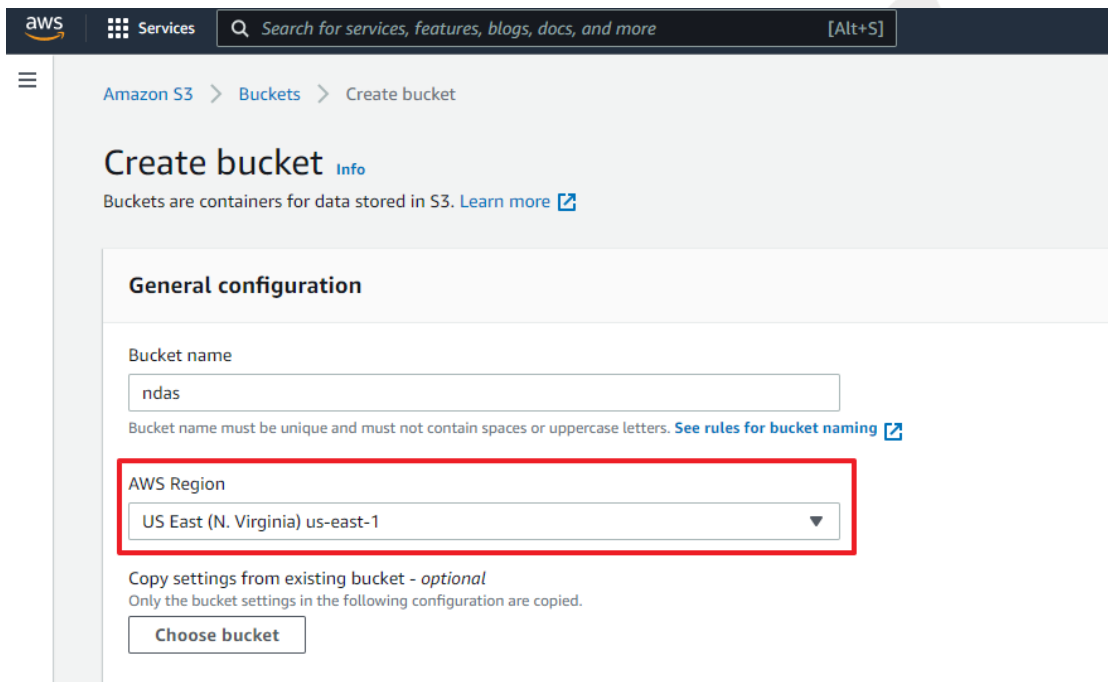
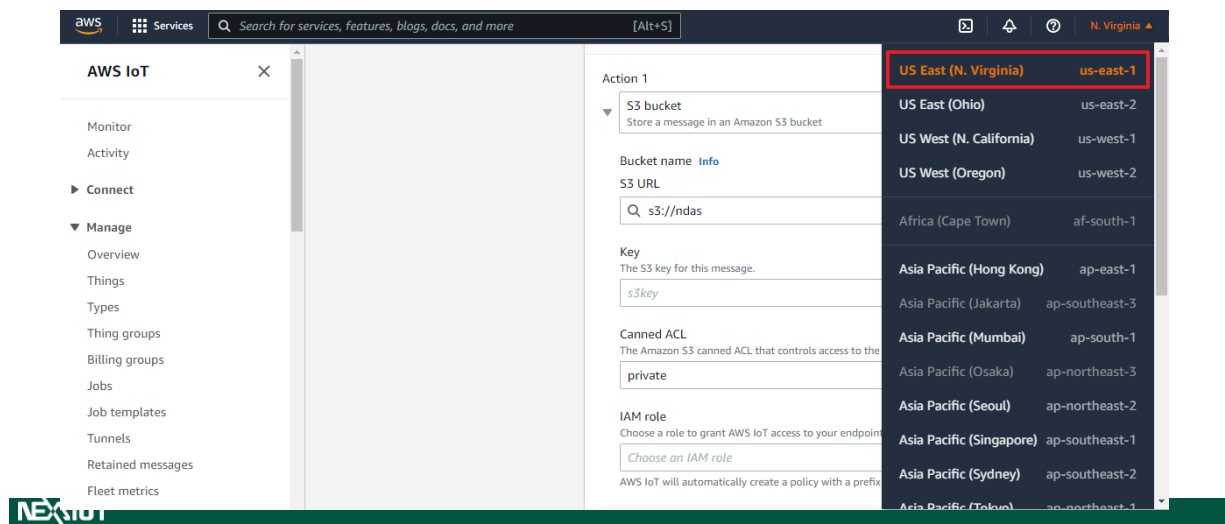

Figure 4-140 AWS Region in Bucket
Figure 4-141 AWS IoT Core Region
- Please note that it is important to ensure that the AWS Region of the Bucket matches the Region of IoT Core (as shown in Figure 4-140 and Figure 4-141).